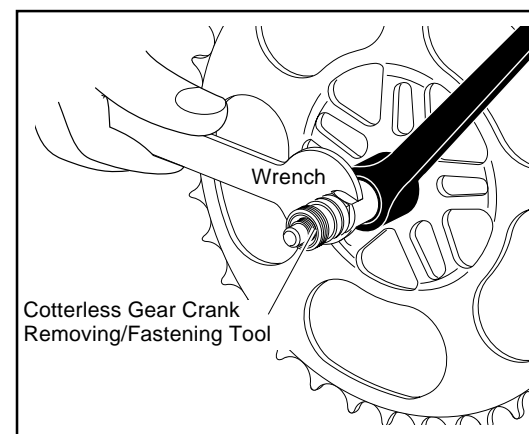

Fig. 3
4. Use a cotterless gear crank removing/fastening tool and a wrench, rotate the crank nut to remove it. (Fig. 3)